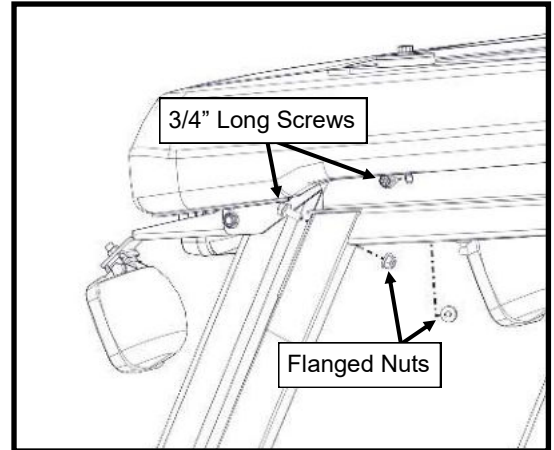

Figure 5.3: Side Frame to W/S Support Bolts
5.3 With assistance, set the left side frame up under the roof and onto the floor board and fasten the side frame to the windshield support (see Figure 5.3). Use the top hole on the front part of the windshield support, as the lower hole will be used with the windshield itself. Leave hardware loose.